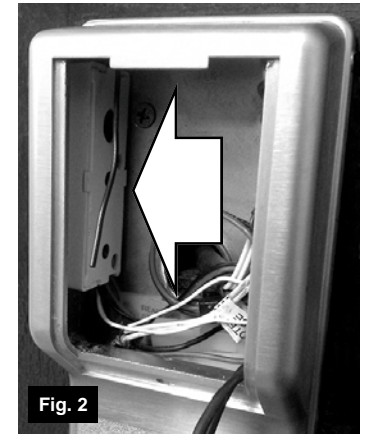

Fig. 2
4. Apply the double-sided adhesive strip (provided) to the side of the RR-RECEIVER without the holes and secure to the inside of the lock housing (upper-left side as shown in Fig. 2). Curl the antenna wire up and to the side of the RR-RECEIVER as shown in Fig. 2.